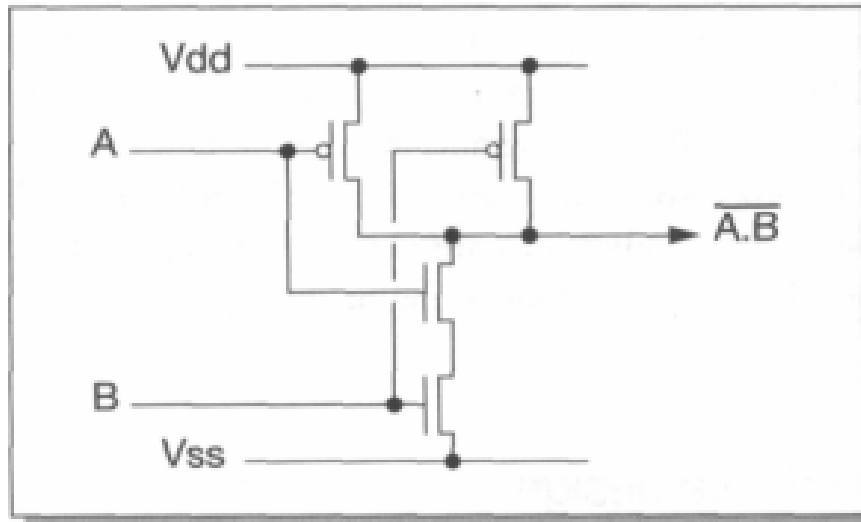

Figure 1.2 The transistor circuit of a static 2-input CMOS NAND gate.
- When a group of transistors is wired together in a particular structure, such as the CMOS (Complementary Metal Oxide Semiconductor) NAND gate shown in Figure 1.2, the behaviour of the group has a particularly simple description.